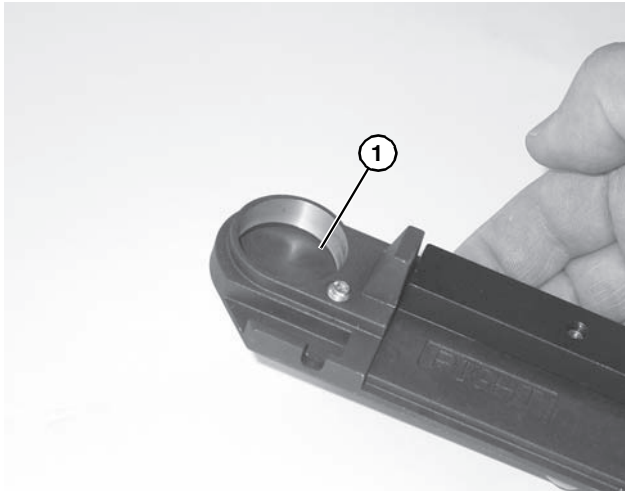

Figure 37
1. Inspect the head plates bearing seating surface (**Figure 37, item 1**). If they are worn or damaged, replace. See “Service Parts” on page 20.